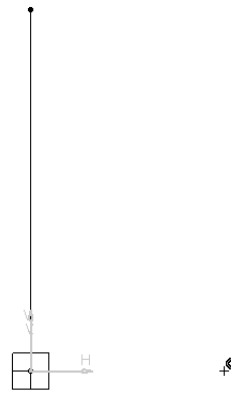

Figure 6-76 Point to be placed
3. Select the yz plane and invoke the **Sketcher** workbench. Place a point collinear to the H axis at any distance, as shown in Figure 6-76. Exit the **Sketcher** workbench.